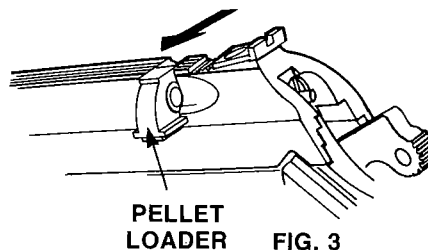

FIG. 3
- Push pellet loader open by pushing it from right to left. Check to be sure it does not have a pellet in it. (Fig. 3)
- Push pellet loader open as shown in Fig. 3.